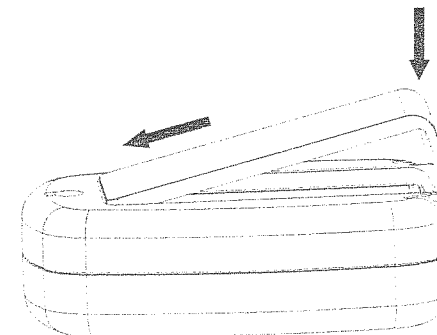

Figure 3
3. Close the battery door as shown in **Figure 3**. Make sure the gasket (around the battery compartment) is properly seated in its trace prior to closing the door.